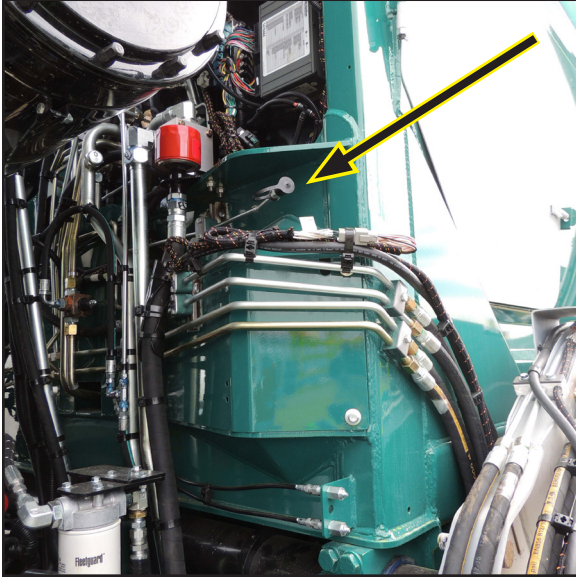

Figure 1: Locate the hydraulic pressure test port tube on the front of the body.
1. Locate the hydraulic pressure test port tube on the front of the body (Figure 1).